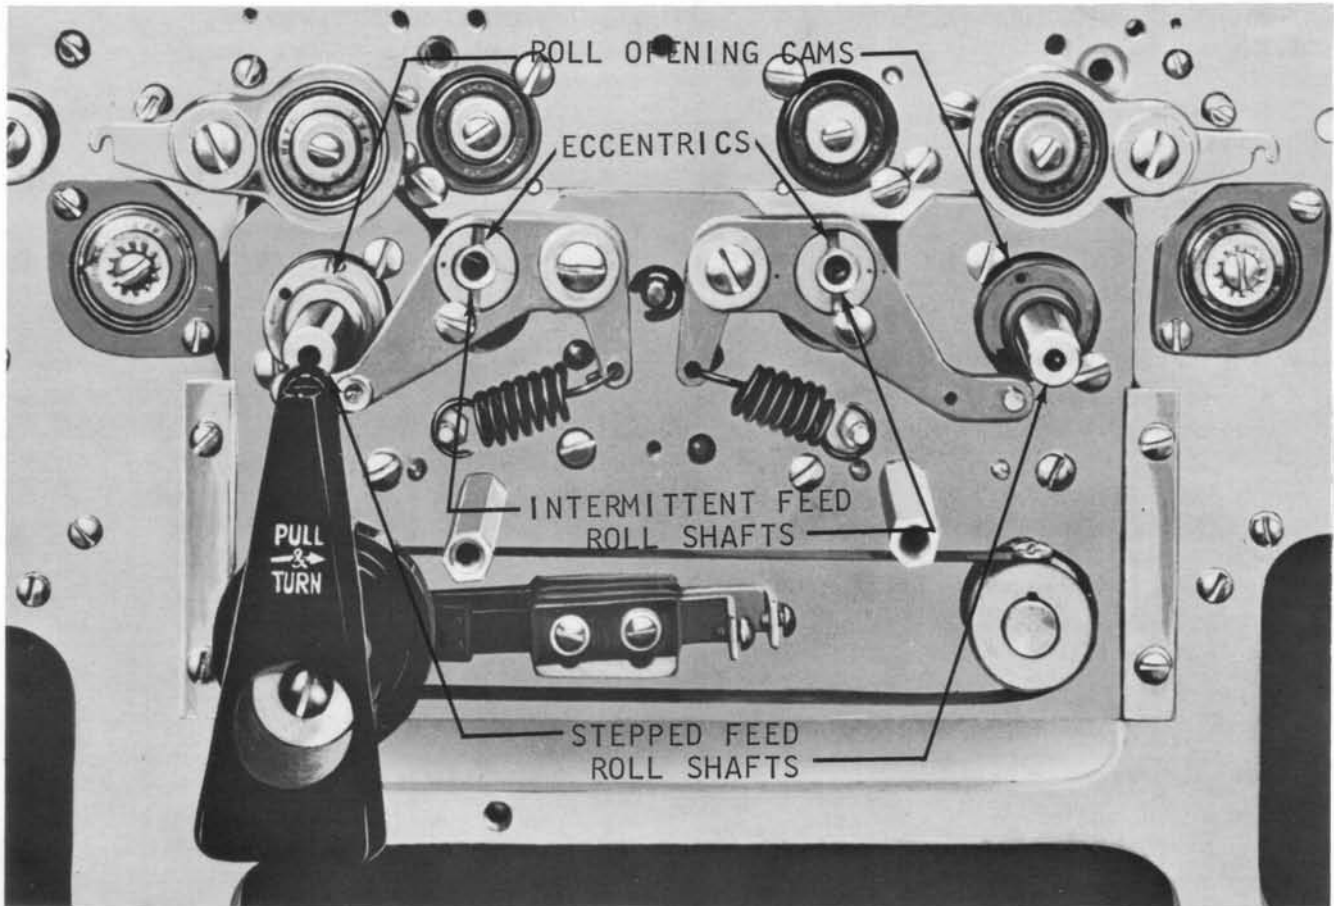

Figure 41. Roll Opening Device
2. Adjust the eccentrics\* at each end of the intermittent feed roll shaft so that there is a light drag evenly over the full length of the card (Figure 41). Keep the high side of the right and left eccentrics in the same relative position as indicated by spot marks on eccentric bushings and feed roll opener arms.
### Principles of Operation (Figure 41)